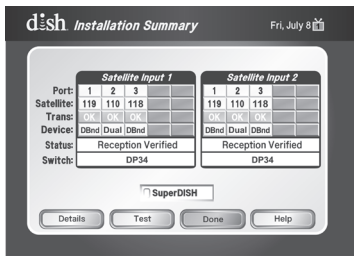

Figure 17. DISH 500+ Installation Summary
13. Run Check Switch. Run **Check Switch** again and confirm reception for 110°W, 119°W, and 118.7°W satellites if using DISH 500+ and for 110°W, 119°W, 129°W, and 118.7°W satellites if using DISH 1000+ (see Figures 17, 18, 19, 20, 21, 22, and 23 depending on your configuration).